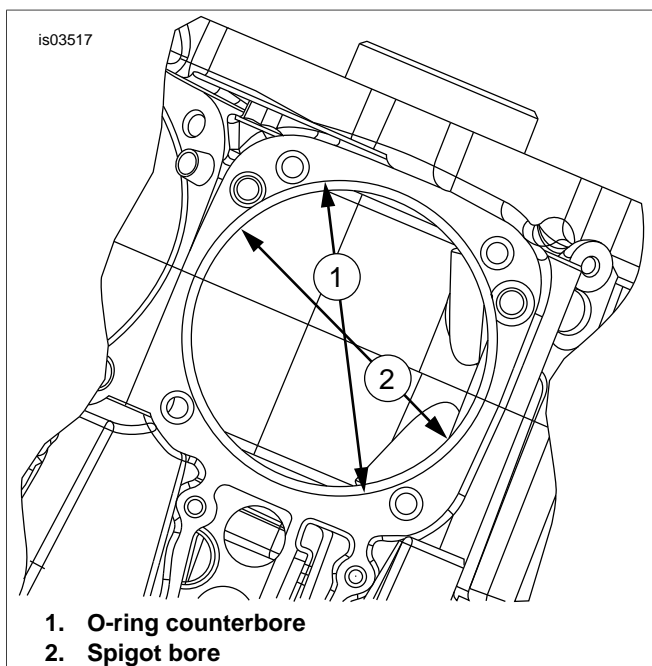

Figure 1. Spigot Bore and O-Ring Counterbore Dimensions
6. See Figure 1 and Table 1. Machine crankcase cylinder spigot bore and O-ring counterbore to the dimensions shown.